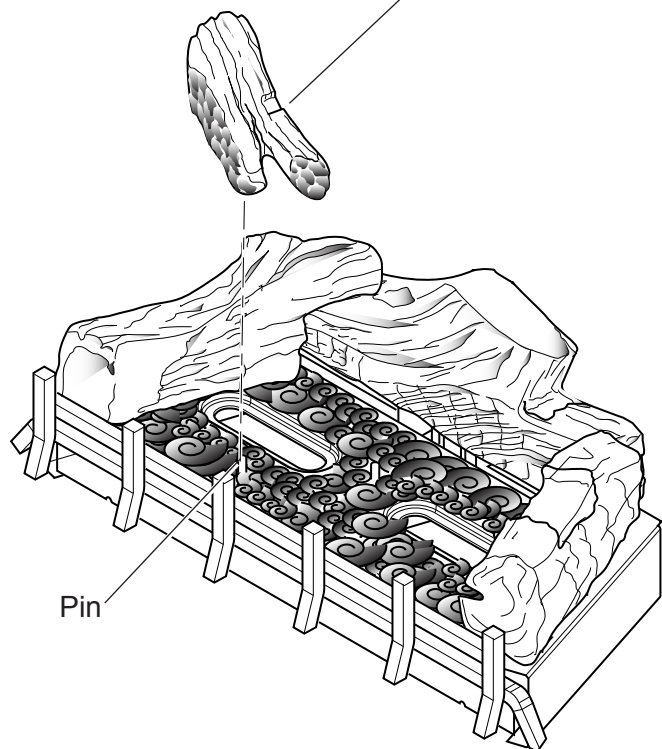

Figure 22 - Installing Left Center Log #4
7. Line up hole in bottom left center log (#4) with pin on burner. See *Figure 22*.